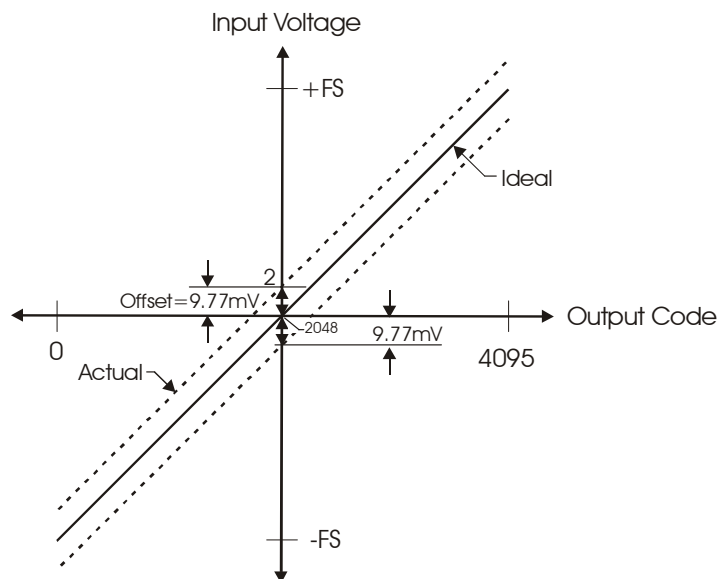

Figure 12. ADC transfer function with offset error
The USB-1208FS offset error is measured at mid-scale. Ideally, a zero volt input should produce an output code of 2048. Any deviation from this is an offset error. Figure 12 shows the USB-1208FS transfer function with an offset error. The typical offset error specification on the  $\pm 10$  V range is  $\pm 9.77$  mV. Offset error affects all codes equally by shifting the entire transfer function up or down along the input voltage axis.
**The accuracy plots in Figure 12 are drawn for clarity and are not drawn to scale.**